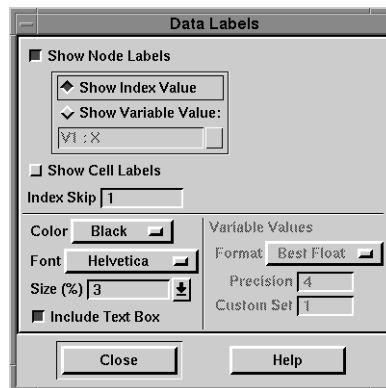

Figure 9-12. The Data Labels dialog.
1. From the Style menu, choose Data Labels. The Data Labels dialog appears, as shown in Figure 9-12.